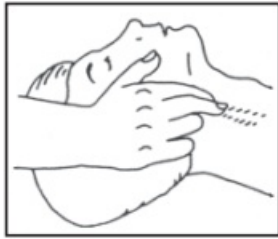
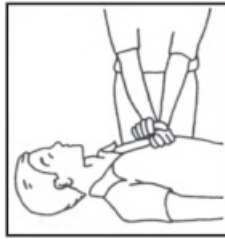
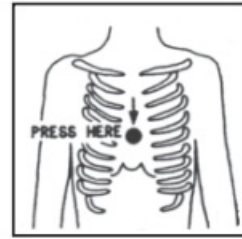

Figure 3
Figure 4
Figure 5
- Check carotid pulse (Figure 3); if pulse is absent, begin artificial circulation (Figure 4) depressing sternum (Figure 5)